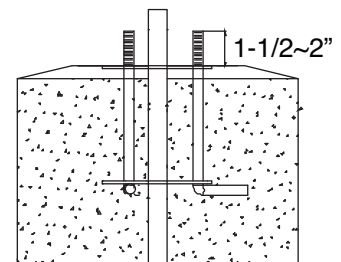

Fig. 4
3. Install three anchor bolts into concrete as per attached drawing, having at least 1-1/2~2" protruding from concrete with threads free and clear of debris and dirt. (Fig 4)